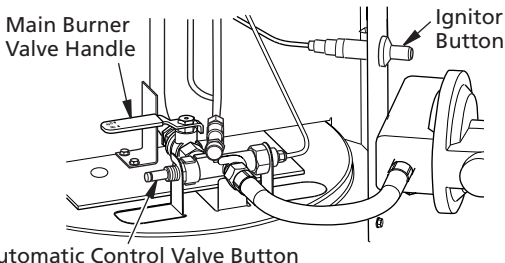

Figure 7 - Main Burner Valve Handle, Automatic Control Valve Button, and Ignitor Button Locations, With Regulator Installed
- Push in and hold automatic control valve button (see Figure 7). Push ignitor button (see Figure 7). You may need to push the ignitor button 3-8 times until the pilot lights. **NOTE:** Hose may be filled with air. If so, keep automatic control valve button pressed and wait 20 seconds for gas to clear before pressing ignitor button again. When pilot lights, keep automatic control valve button pushed in. Release button after 30 seconds.